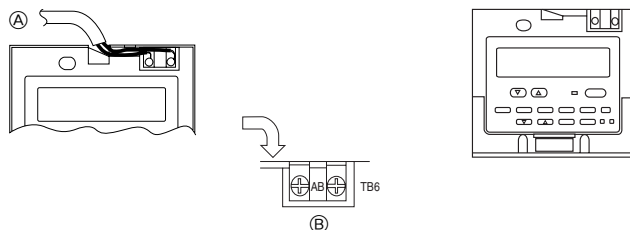

Fig. 9-4
2) Connecting procedures (Fig. 9-4)
- ① Connect the remote controller cord to the terminal block.